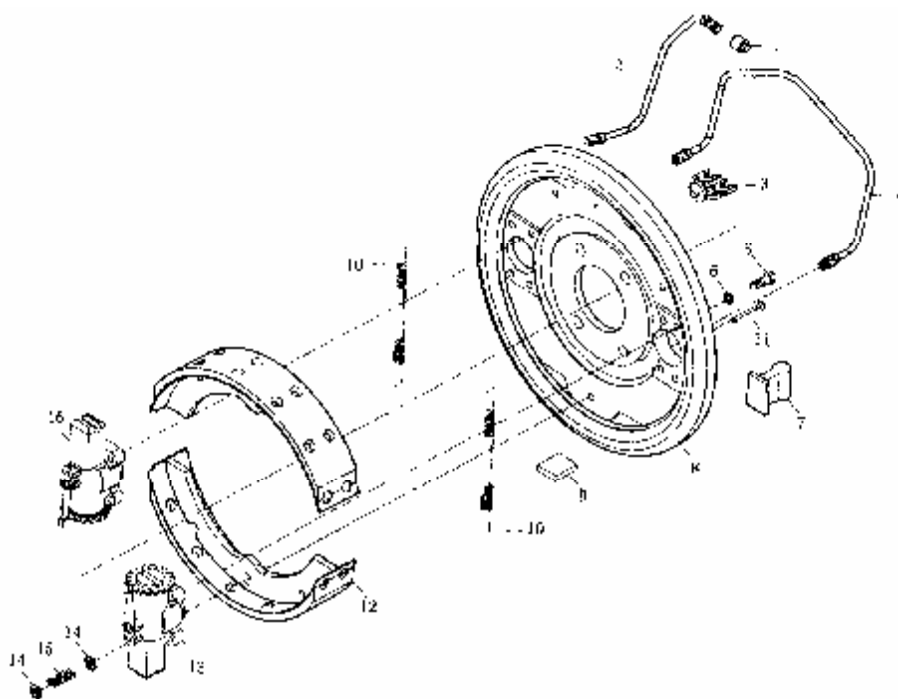
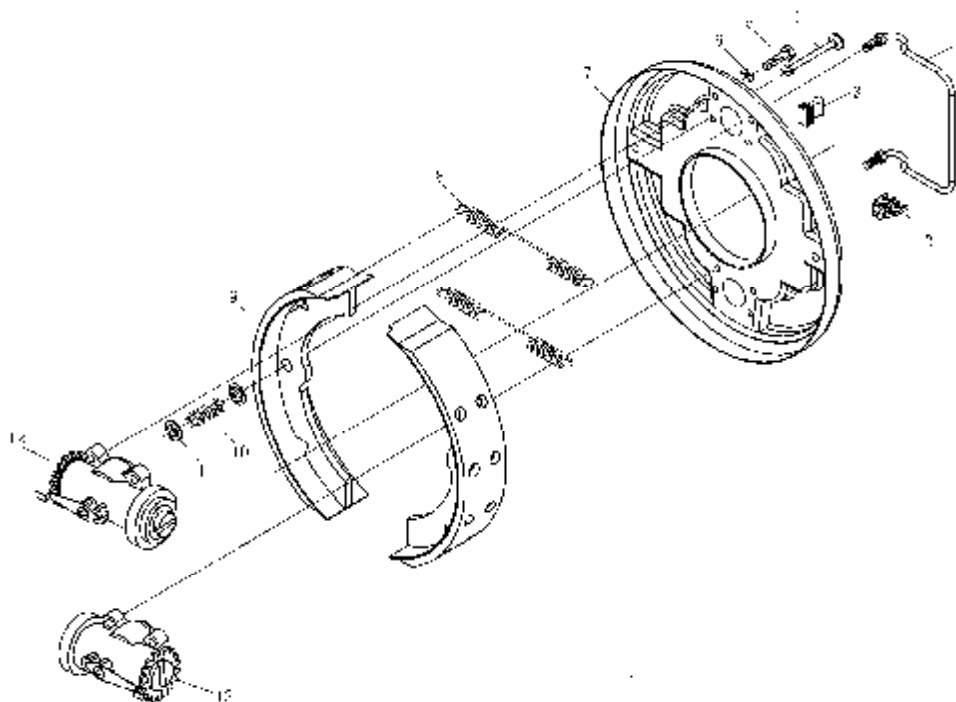

Figure 7-8-1 Front brake assembly
Figure 7-8-2 Rear brake assembly
BJ1049V9JD6-C front brakes use caliper-disc brakes, and BJ1049V9JE6-A and BJ1043V8JE6-D use dual LT shoe drum brakes. See figure 7-8-1. It is mainly composed by brake drum, wheel pump (13,16), brake base plate (8) and FF/RR brake shoe assembly (12). Brake base plate 8 is fixed with bolt on front wheel knuckle. Rod (11), compress spring (15) and spring seat (14) on base plate are used to limit axial play of brake shoes. Brake shoe is hooked by return spring, its end adheres to wheel cylinder piston. Friction lining is riveted on outer face of brake shoe. Construction of rear brake (figure 7-8-2) is the same as that of front brake.